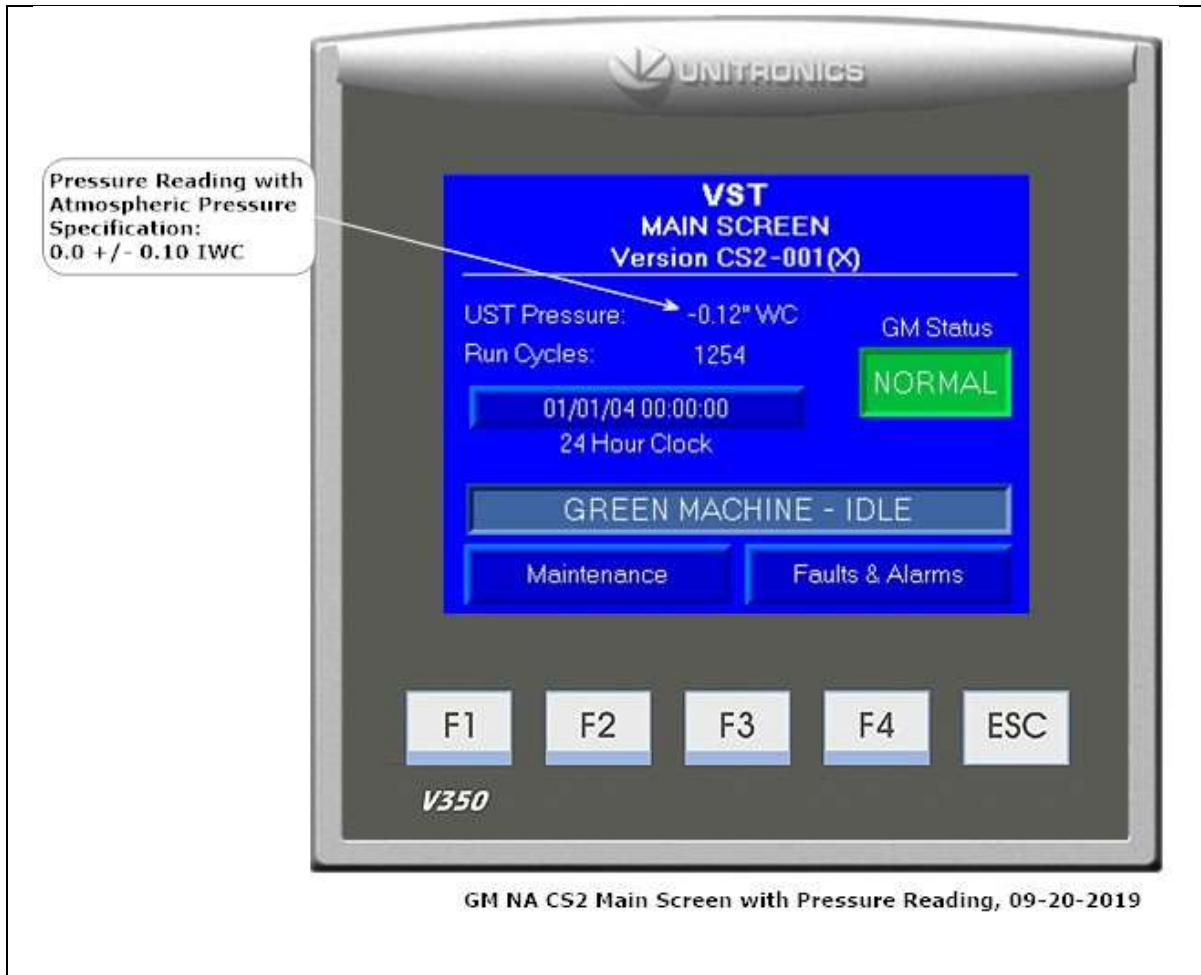

Figure 7-10: Main Screen w/Pressure Reading
7. At the VST Control Panel PLC Main Screen, make sure the Pressure reading is 0.0 +/- 0.10 IWC. **See Figure 7-10.**